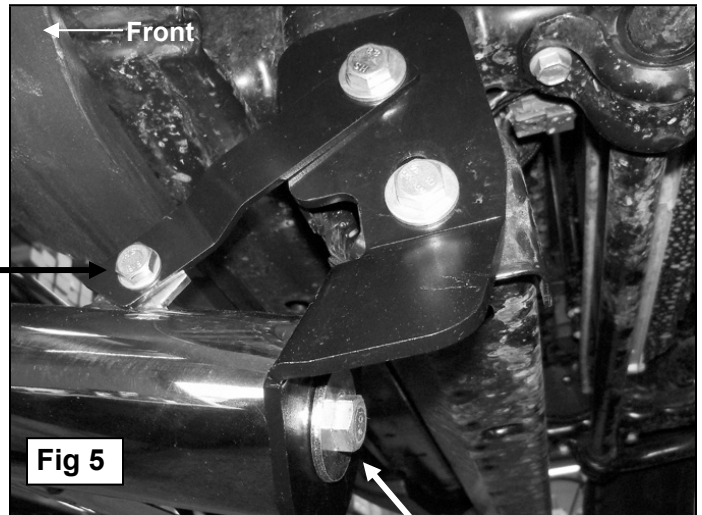

Fig 5
6. With help, position the Bull Bar up to the Mounting Brackets. Use the included (2) 1/2" x 2" Hex Bolts, (2) 1/2" Large Flat Washers and 1/2" Lock Washers to attach the Bull Bar to the Mounting brackets, (**Figure 5**). Snug but do not tighten at this time.
7. Bolt the forward end of the Support Brackets onto the outside of the tabs on the Bull Bar with the included (2) 10mm x 25mm Hex Bolts, (2) 10mm Lock Washers, (4) 10mm Flat Washers and (2) 10mm Hex Nuts. Snug but do not tighten hardware at this time.